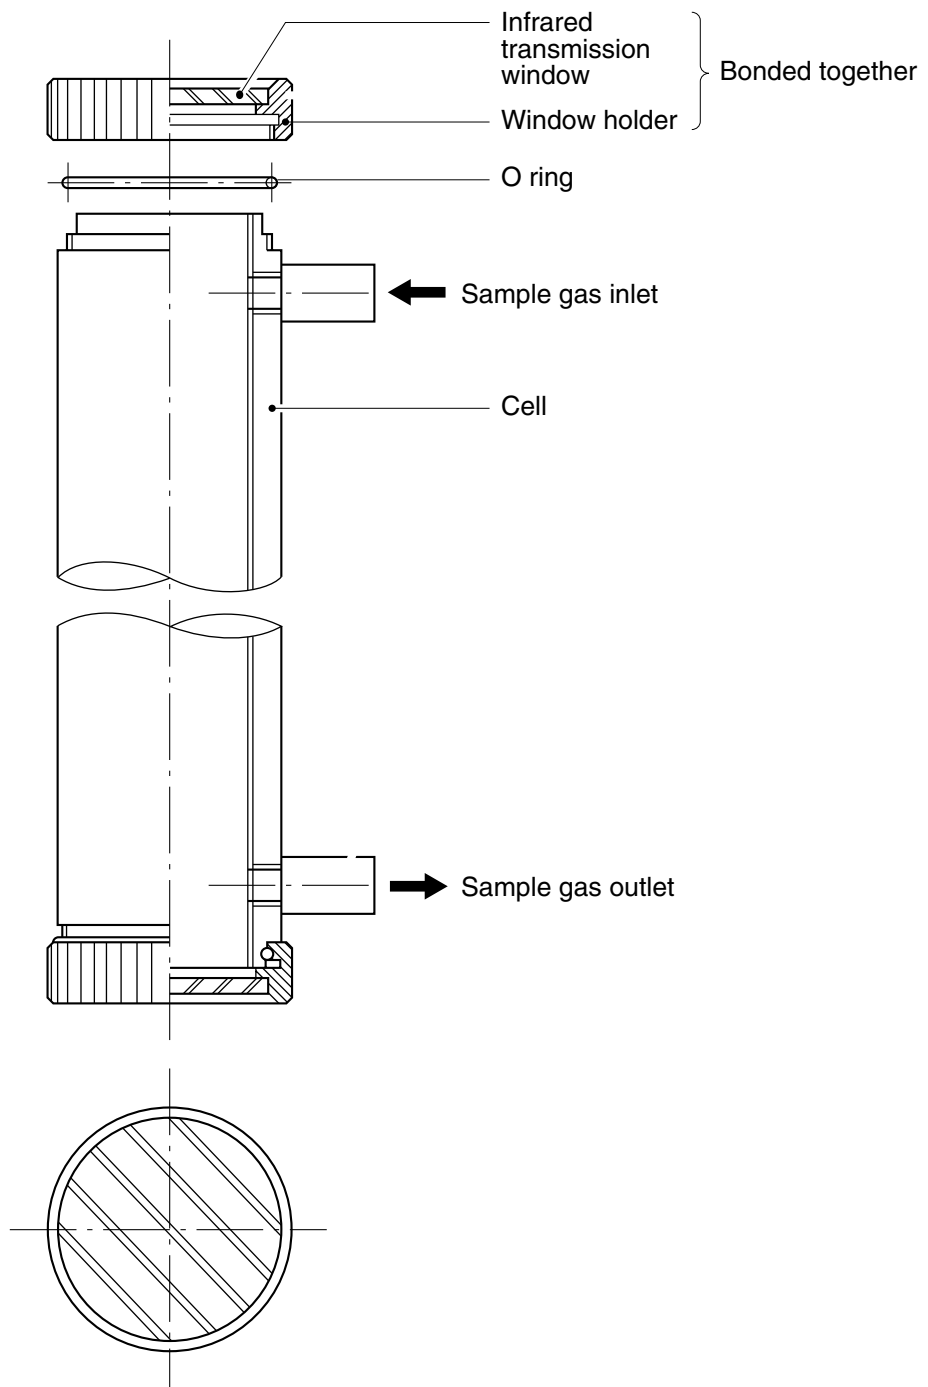

Fig. 7-1 Structure of sample cell (pipe cell)
- (4) Turn to the left the sample cell window and remove it from the sample cell (see Fig. 7-1).
- (5) For cleaning the window and cell inside surface, first eliminate coarse dust by soft brush or the like and then wipe them by soft rag.